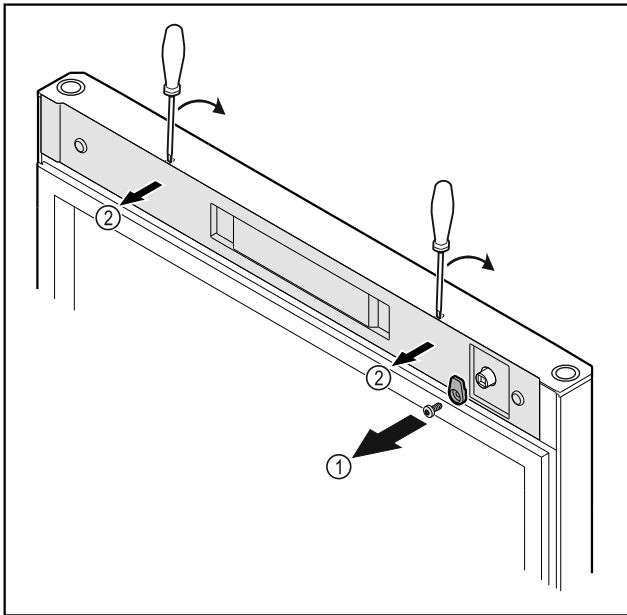

Fig. 12 \*
- ▶ Unscrew the door latch Fig. 12 (1)\*
- ▶ Unlatch the cover Fig. 12 (2) with a small screwdriver and remove it.\*